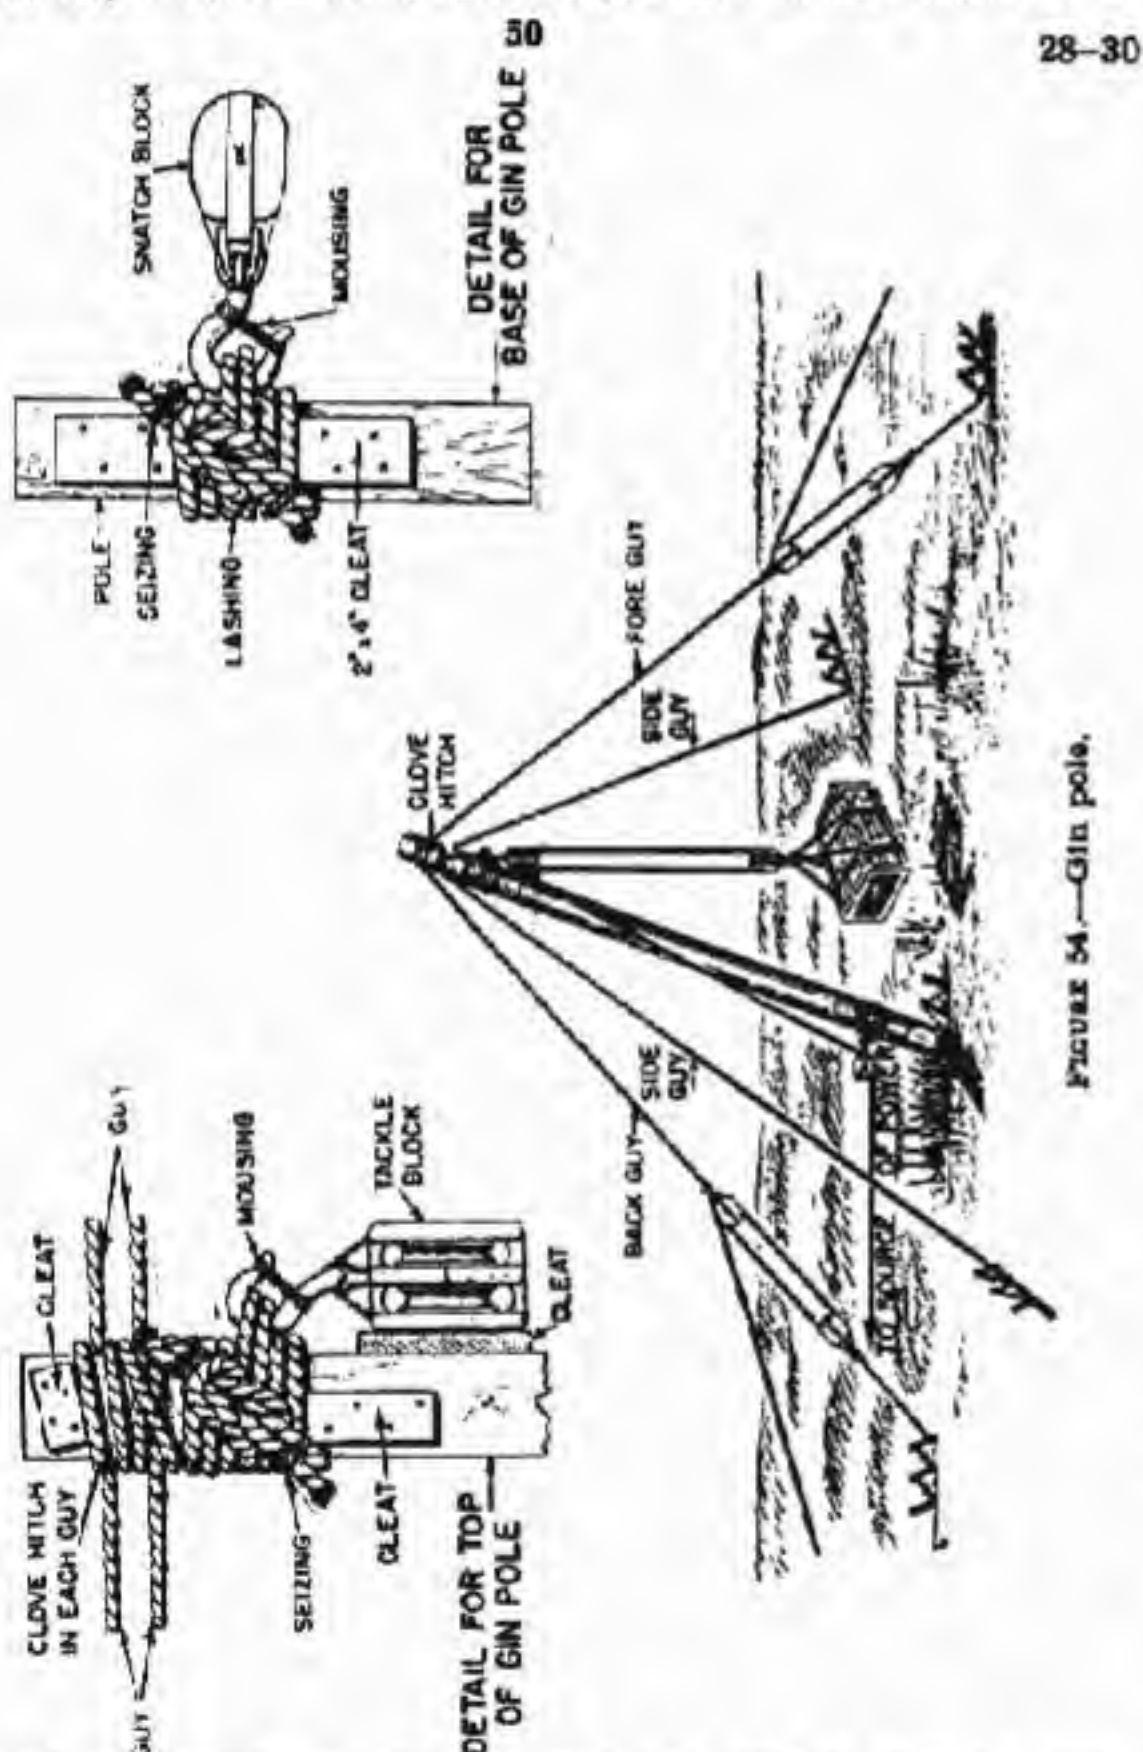

FIGURE 54.—Gin pole.
(1) *Rigging a gin pole* (fig. 54).—Lay the pole on the ground with the base (large end) at the spot where the pole is to be erected. Make a tight lashing of eight or nine turns about 1 foot from the top of the pole; with two or more of the central turns engage the hook of the upper hoisting block. Nail cleats to the pole to prevent the lashing from sliding down the pole. Attach the guy lines with a clove hitch just above the tackle lashing, and nail cleats to the pole just above the guy lines to prevent their slipping off. Lash a block to the butt of the pole about 2 feet above the base in the same manner as at the top of the pole. Now reeve the hoisting tackle.
(2) *Erection* (fig. 54).—Dig a hole where the base of the pole is to rest and anchor the base to prevent its slipping when